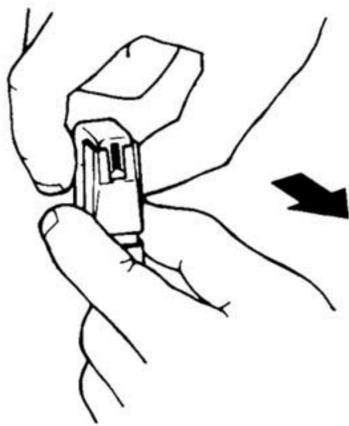

Fig. 3
- Move the tonearm a little toward the inside using the tonearm "in" button "◀" ②.
- As shown in the figure, pull the stylus toward you and draw it out gently. Attach the new stylus following the procedure for removing the old stylus in reverse. (See Fig. 3).